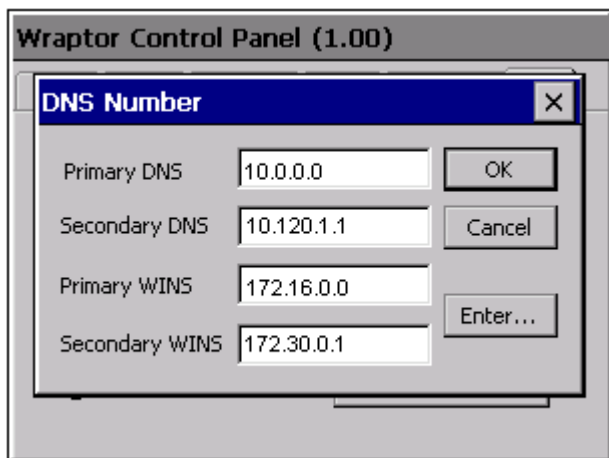

Figure 23. DNS/WINS Server Address Entry
- ◆ The DNS Number dialog (*Figure 23*) appears.